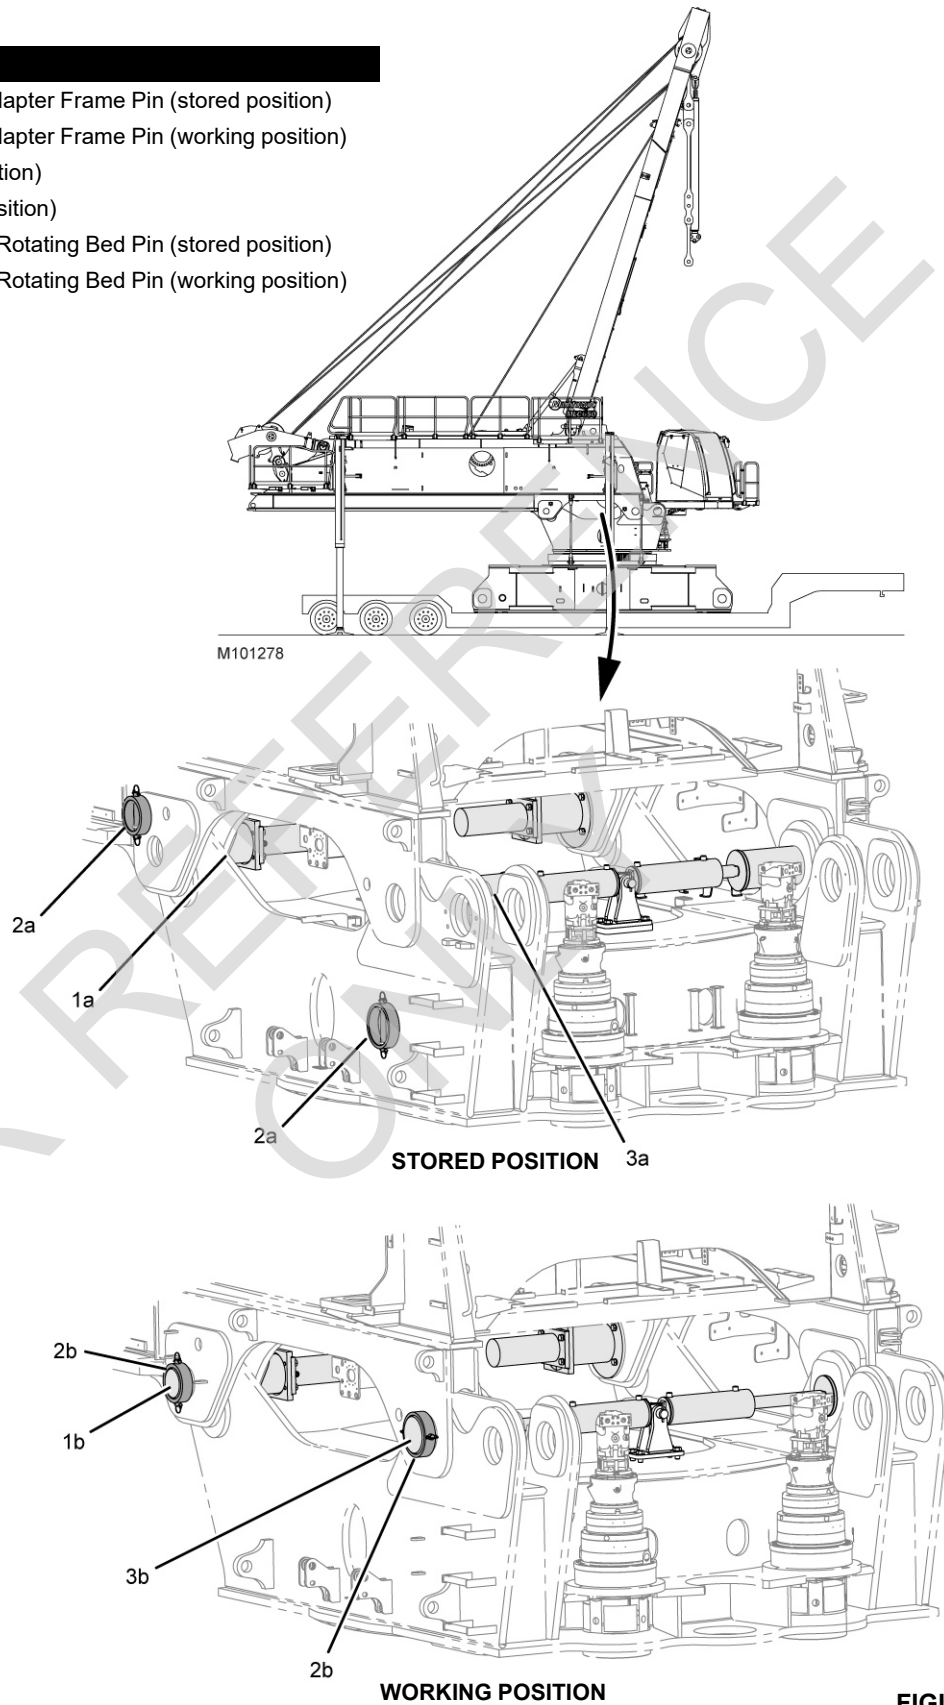

FIGURE 4-42
4. Position the trailer so the alignment pendant lugs (7) on the carbody are directly under the alignment pendants (6, View B) hanging from the rotating bed.
8. Slowly retract the rotating bed jacking cylinders to lower the adapter frame and carbody back onto the trailer, continuing to lower the jacks until the mounting holes in the adapter frame and rotating bed align (Figure 4-42).
See Figure 4-42 for the following procedure.